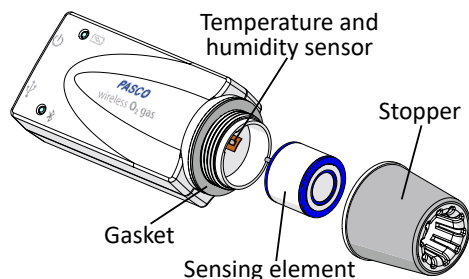

Figure 1. Installing the sensing element.
1. Turn the stopper counterclockwise to remove the stopper from the sensor. Keep the gasket attached to the sensor. (See Figure 1.)